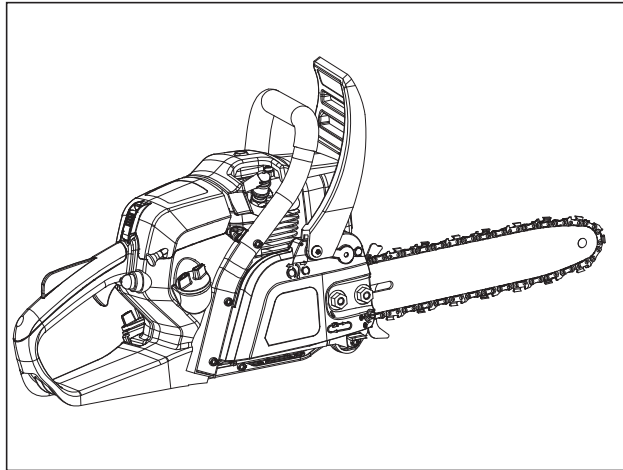

Fig. 35
7. Tighten the bar mounting nuts to fix the clutch cover (Fig. 35).